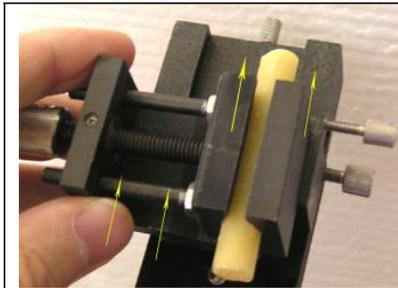

Fig. 4a
- (4) Slide the vise with sample into the groove of mechanical chuck on the cutting arm (Fig. 4a)